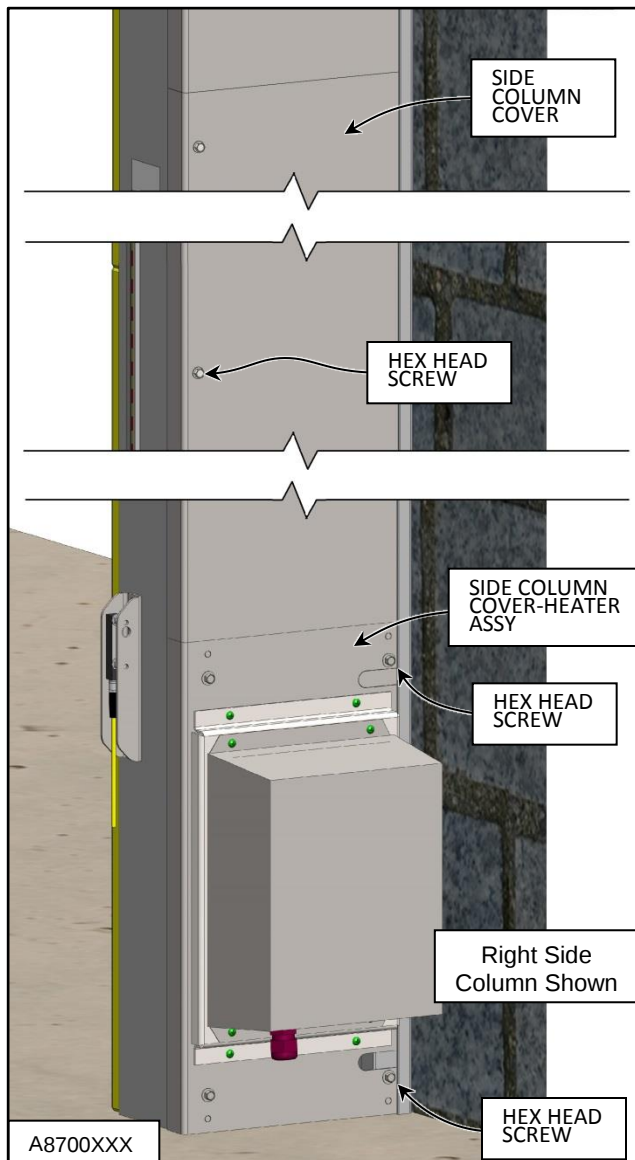

Figure 55
2. Remove the lower side column cover(s) behind the lower fiberglass assembly sections after removing the screws holding them in place. (See Figure 55)